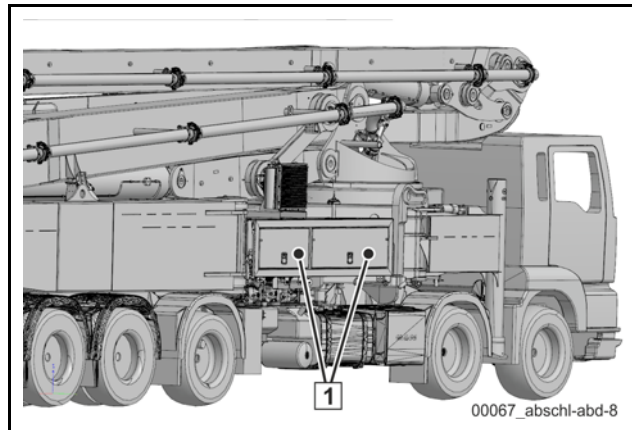

Fig. 202 Position, “emergency operation” control platform (example illustration)
The emergency operation control platform (**Fig. 207**) is located on the right in the direction of travel, behind a lockable flap (1) (**Fig. 202**).